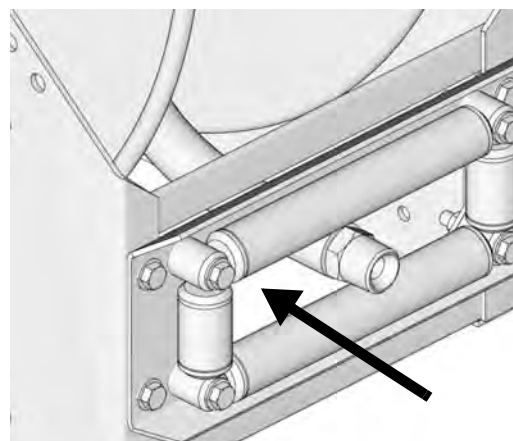

FIG. 19
5. Feed loose end of hose through the hose rollers and manually wrap and secure hose onto reel (FIG. 19).